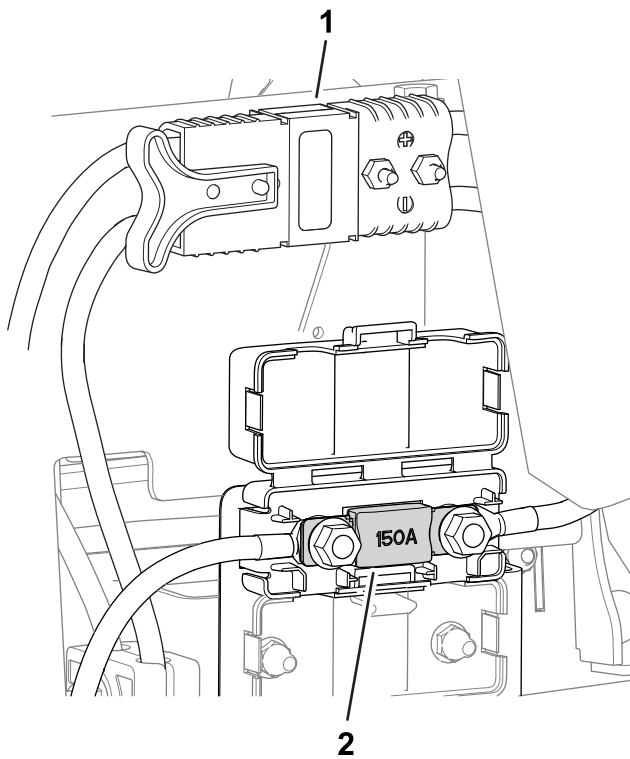

Figure 62
- The fuse for the electrical system is located under the main-power connectors (Figure 62).